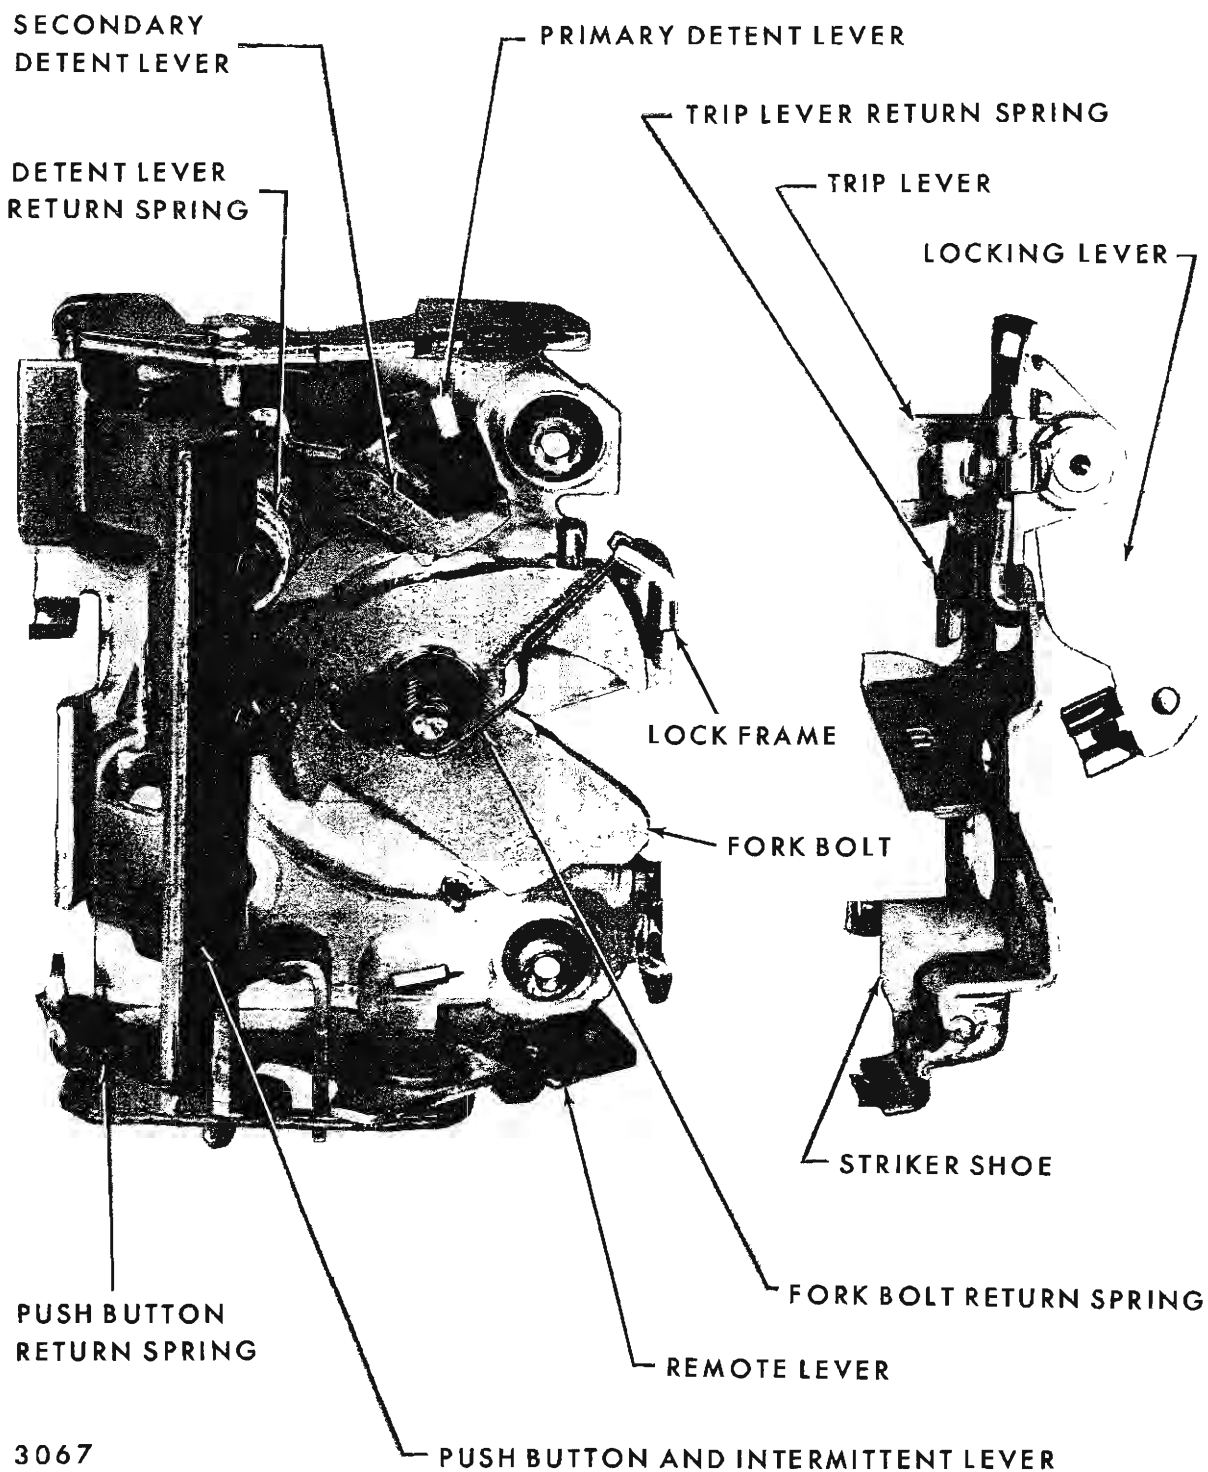

Fig. 6-116—Rear Door Lock Assembly - All Styles
**NOTE:** Figure 6-116 depicts a typical front door lock assembly which can be used for identifying locking problems. **DO NOT ALTER OR REPAIR LOCK ASSEMBLIES.** Replace a defective lock with a new lock assembly.